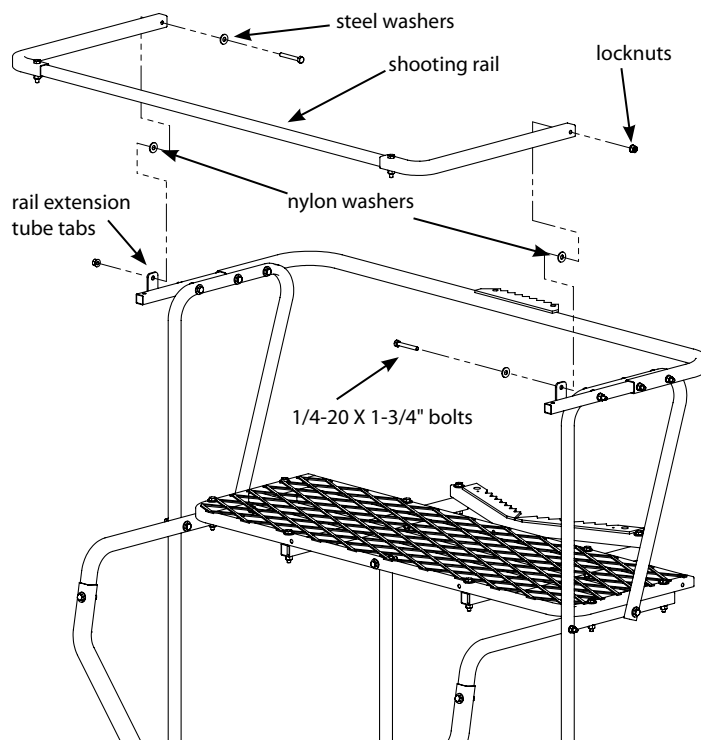
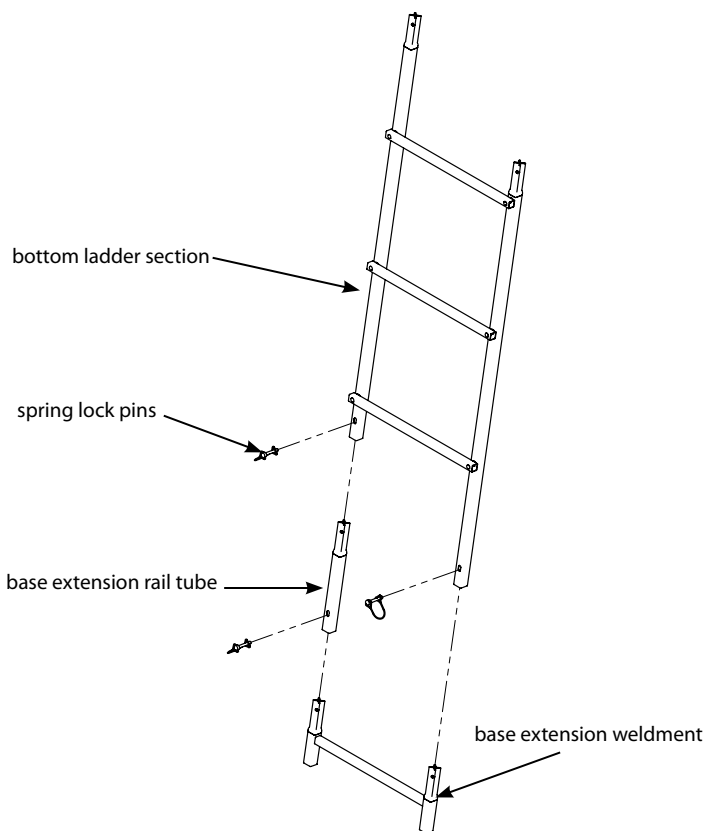

Figure 7
Figure 8
10. Attach the previously assembled shooting rail to the tabs located on the shooting rail extension tubes using (2) provided 1/4-20 x 1-3/4" bolts, locknuts, steel washers and nylon washers. **You must now tighten all nut and bolt combinations completely. Be sure not to over tighten or crush tubing when tightening. SEE FIGURE 7.**
b. Attach the (2) provided 9" and (1) provided 36" camo foam sleeves to the side loop frames and shooting rail by wrapping around square tubing and attaching Velcro together.
12. Insert one side of the base extension weldment (410044) into the base extension rail tube (410040) and secure with (1) spring lock pin. Handle of spring lock pin must be put to the outside of long rail. **SEE FIGURE 8.**
13. Take the factory assembled ladder sections and unfold them to their full, deployed width. Insert the previously assembled base extension into (1) 3-step ladder section (410032). **SEE FIGURE 8.** This step now makes this the bottom ladder section.